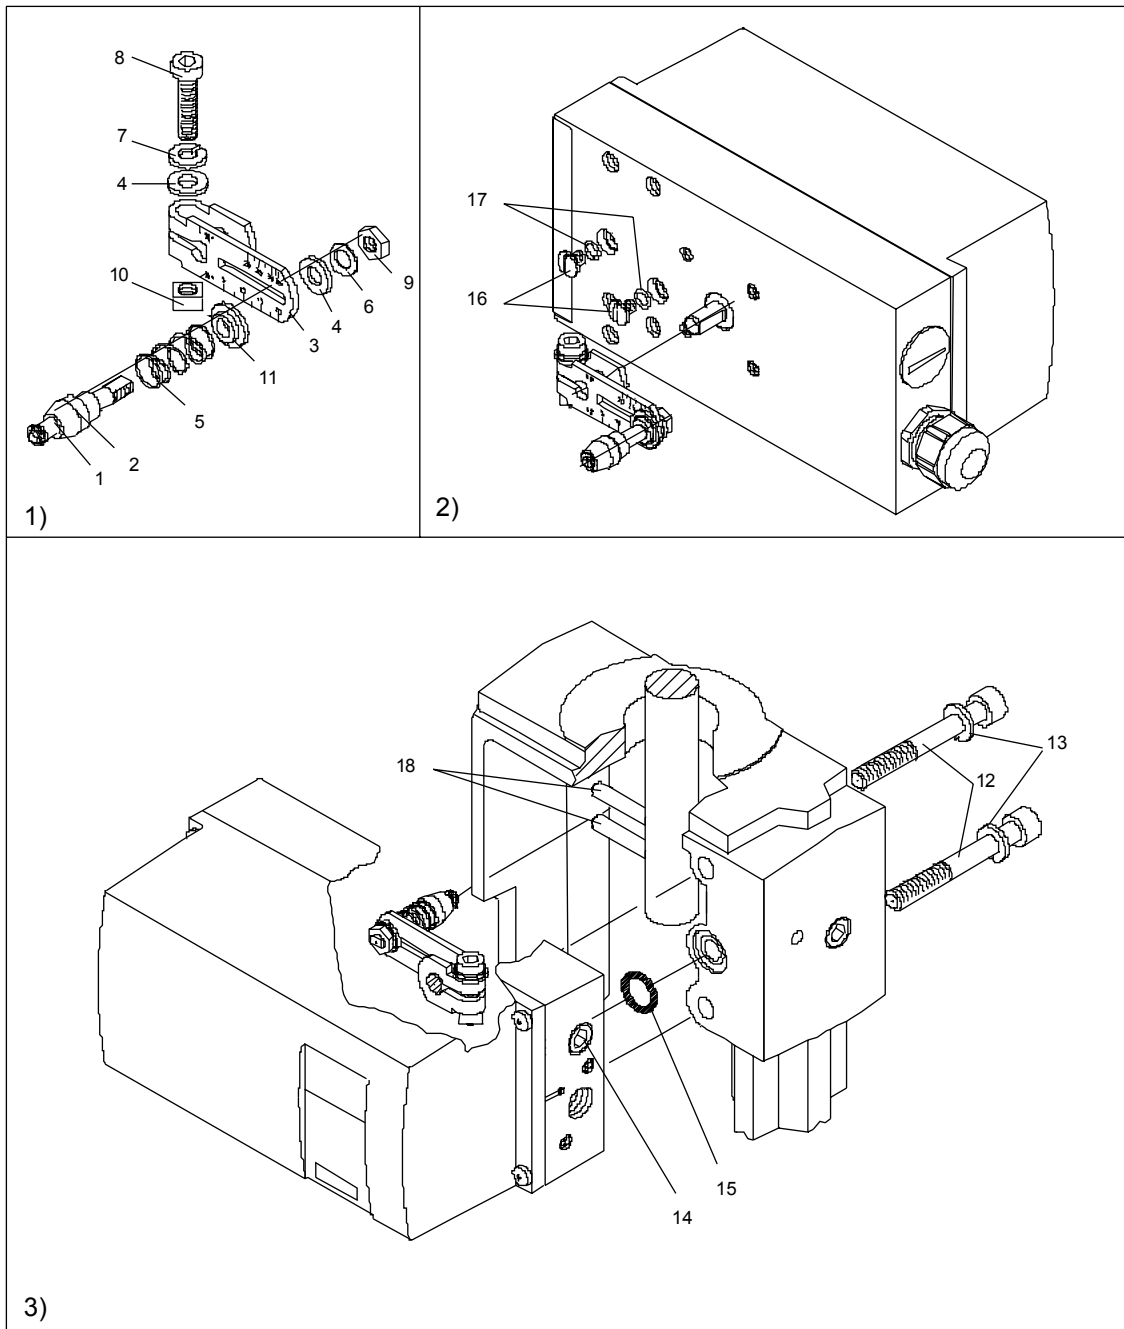

Figure 2 Assembly procedure for integrated fitting
Included with the "integrated fitting linear actuator" are (see Figure 2 for identifying numbers):
3.2.1 Assembly procedure (see Figure 2)